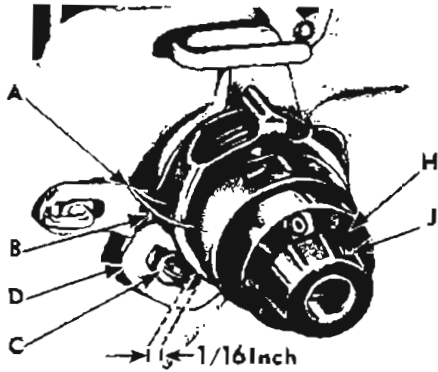
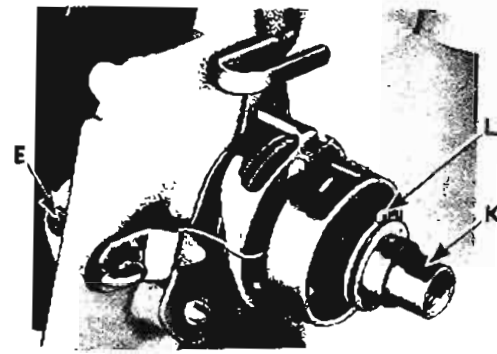
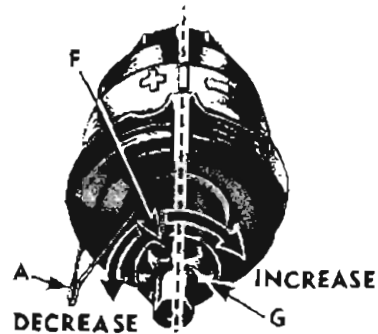

Fig. 14. Setting Stroke of Take-up Spring
Fig. 15. Stud Set Screw and Tension Adaptor
Fig. 16. Setting the Tension
SETTING THE STROKE: (See Fig. 14)
NOTE: Fig. 14 shows normal setting with right end of regulator slot 1/16 to 3/32 inch to right of screw head C.
Tension on take-up spring A, Fig. 14 should be just sufficient to take up slack of needle thread until point of needle reaches fabric.
Loosen stud set screw E, Fig. 15 and remove entire tension assembly. Turn numbered dial to "0", releasing all tension. Hold tension assembly so that component parts are in position shown by dotted line in Fig. 16. Place spring end F in groove
Replace tension assembly, draw spring A so that it rests on regulator stop B, Fig. 14 and recheck tension. Tighten stud set screw E, Fig. 15.
3. Turn tension dial H, Fig. 14 over toward left as far as it will go. At this setting there should be a slightly perceptible tension on needle thread (between 5 and 15 grams on Tensometer).
1. Loosen set screw J, Fig. 14 and remove tension dial H.
2. Place thread between tension discs and turn adaptor K, Fig. 15 as required, to obtain a slightly perceptible tension on needle thread (between 5 and 15 grams on Tensometer).
3. Replace tension dial H, Fig. 14 so that stop on inside of dial is to right of stop washer extension L, Fig. 15.
4. Tighten set screw J, Fig. 14.